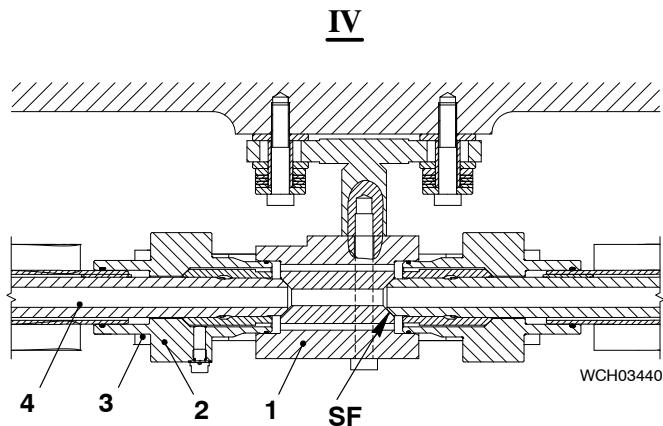

Fig. 10
- 16) Remove the four screws (3, Fig. 10) from the flange (2).
- 17) Carefully move the flange (2) away from the intermediate piece (1).